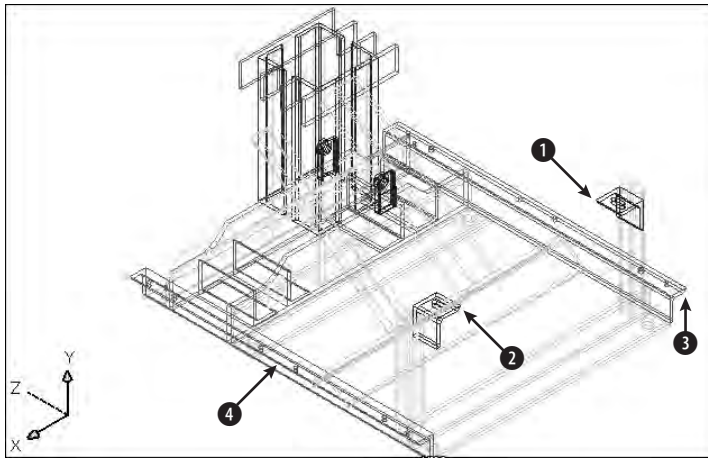

Figure 28-8: The base assembly frame
2. Save the file as *ab28-01.dwg* in your AutoCAD Bible folder. This is a 3D drawing of a base assembly frame for an industrial washer, shown in Figure 28-8.
4. Choose **Insert** ⇨ **Hyperlink**. At the **Select objects:** prompt, pick ❶ and ❷ in Figure 28-8. AutoCAD opens the **Insert Hyperlink** dialog box.
6. Repeat the **HYPERLINK** command. This time attach ❸ and ❹ in Figure 28-8 to `ab28-b.dwf` in your AutoCAD Bible folder. Click **OK** to close the dialog box.